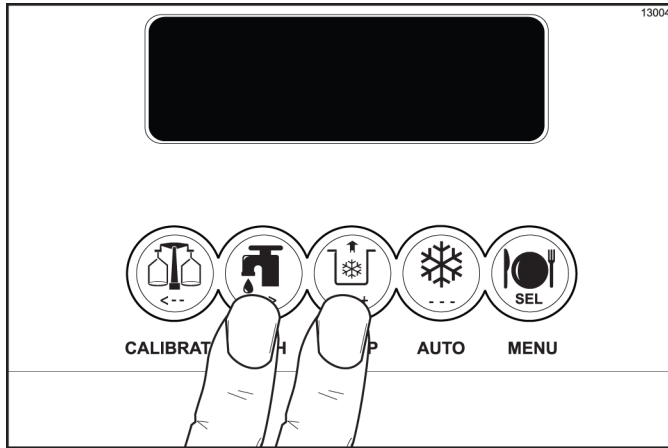

Figure 6-37
13. Press the WASH and PUMP keys to stop the Wash and Pump modes. Close the draw valve. (See Figure 6-37.)